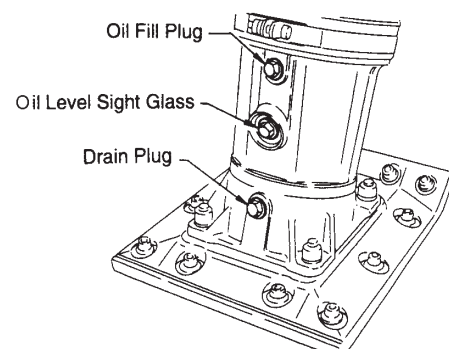

Figure 15. Foot Housing Drain Plug
- Drain oil reservoir on foot housing (Figure 15). Refill with approximately 1.7 pint (800 cc) of 10W-30 motor oil. Oil should be midway in sight glass. Break in oil should be changed after first 50 hours.